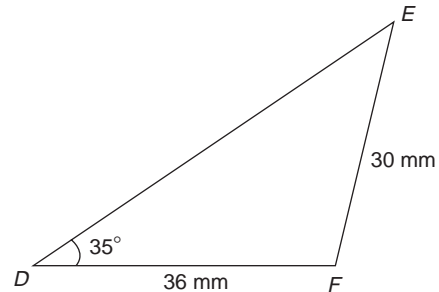

Figure M10
67. In the triangular template DEF shown in Fig. M10, angle F is equal to:
68. The area of the triangular template DEF shown in Fig. M10 is: